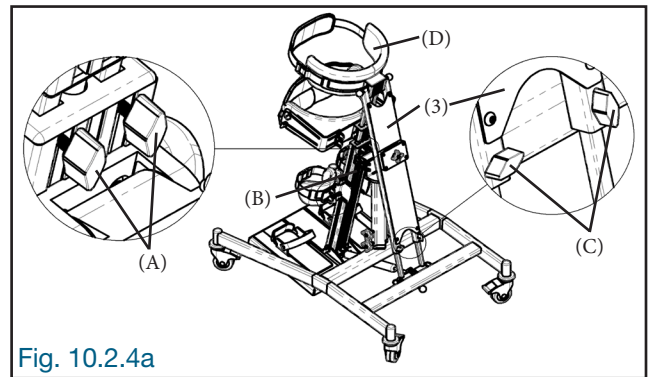

Fig. 10.2.4a
Slightly unscrew the locking knobs (A) at the back of the frame (B) as well as the locking knobs (C) at the bottom of the stabilizer (3), adjust the height of the thoracic rest (D), then firmly tighten the four previously unscrewed locking knobs (A) and (C) (Fig. 10.2.4a).